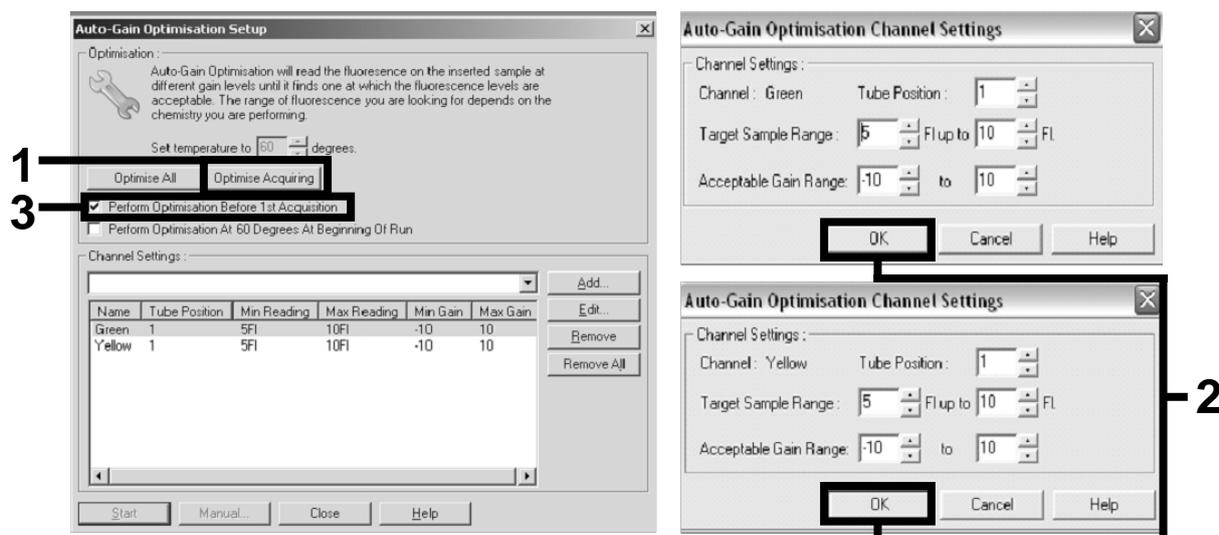

Figure 6. Adjusting the fluorescence channel sensitivity.
Adjusting the fluorescence channel sensitivity	Figure 6
14. The detection range of the fluorescence channels has to be determined according to the fluorescence intensities in the PCR tubes. Click “Gain Optimisation” in the “New Run Wizard” dialog box to open the “Auto-Gain Optimisation Setup” dialog box. Click “Optimise Acquiring” (Figure 6), and then click “OK” in the “Auto-Gain Optimisation Channel Settings” dialog boxes for each channel (Green and Yellow, Figure 6). Make sure that the “Perform
Optimisation Before 1st Acquisition” box is checked for each channel (Figure 6).